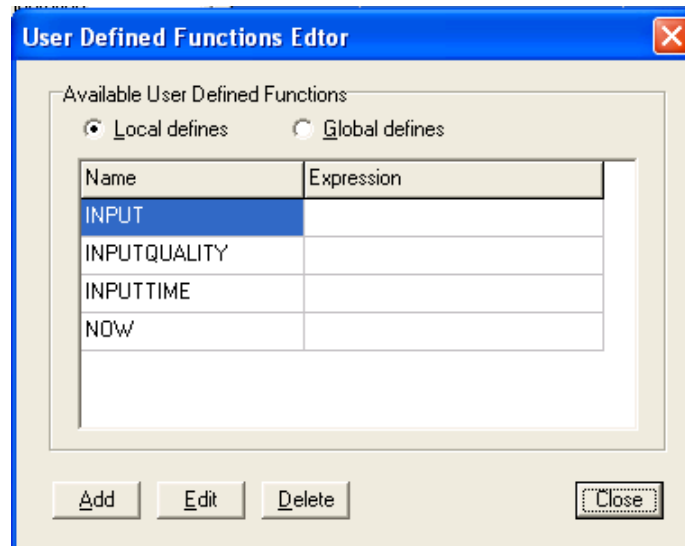

Figure 36 - User Defined Functions Editor
12. If required, from the **Select variable** window, click on the **Modify variables** button to access the **User Defined Functions Editor** (Figure 36) which allows you to add, change, or delete variables.